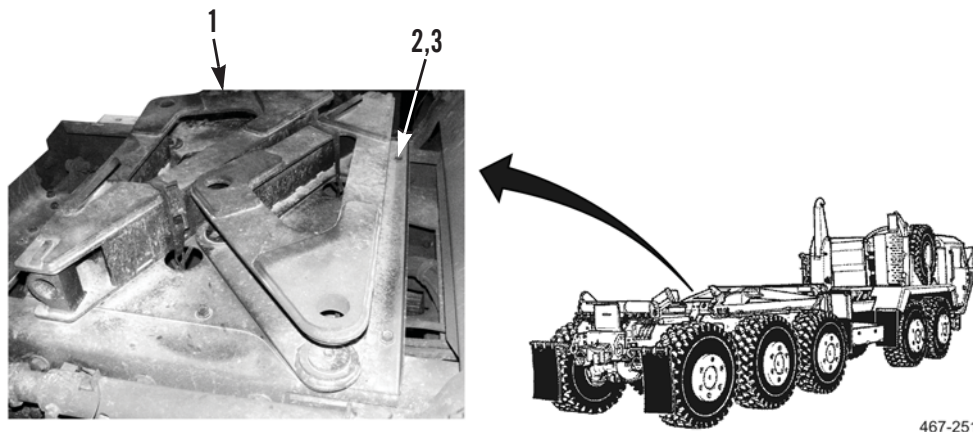

Figure 15. Hard Lift Removal.
1. Attach sling and lifting device to hard lift (Figure 15, Item 1).
2. Remove six nuts (Figure 15, Item 2), and bolts (Figure 15, Item 3) from hard lift (Figure 15, Item 1).
3. Use lifting device to remove hard lift (Figure 15, Item 1) from vehicle and lower onto flat surface.